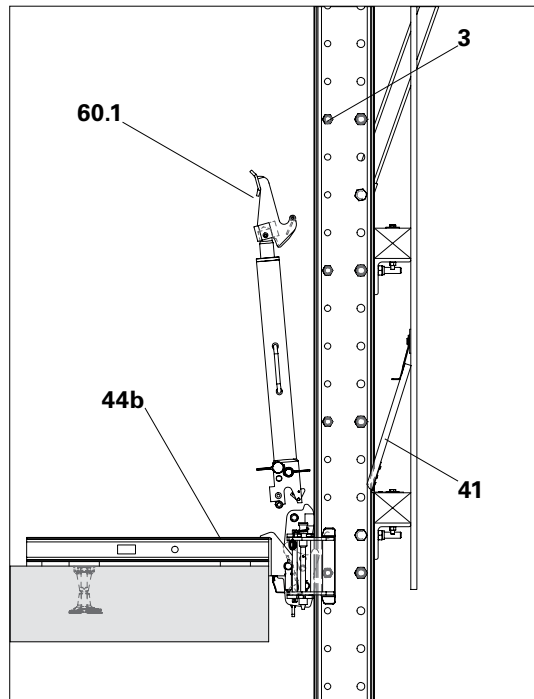

Fig. D4.10
- Claw (60.1) is released from the Spacer (3).
3. Close the Foldable Covers (41).
4. Tilt the Climbing Device backwards, operate the locking lever (60.6) on the cylinder base and lift out the Climbing Device. (Fig. D4.10 + D4.10a)